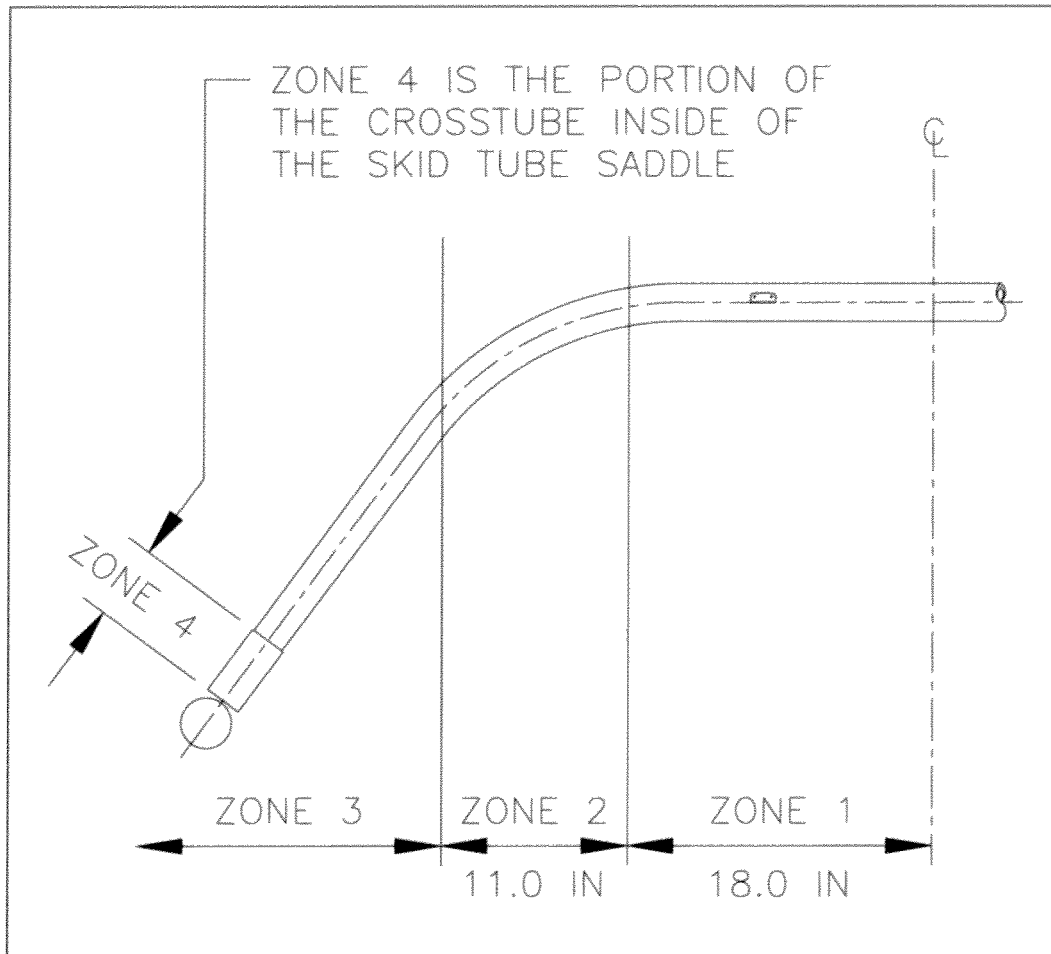

FIGURE 1. CROSSTUBE DAMAGE AND REPAIR ZONES
4. Inspect all crosstubes and components for corrosion or damage (scratches, nicks, dents). Refer to the zones shown in Figure 1 and the limits shown in Tables 1 and 3. Only one repair per side (L/H, R/H) is permissible. Crosstube components exceeding the limits shown in Tables 1 and 3 must be replaced.